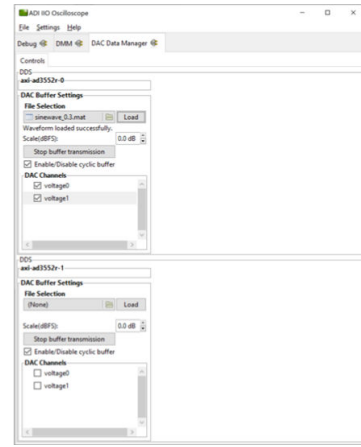
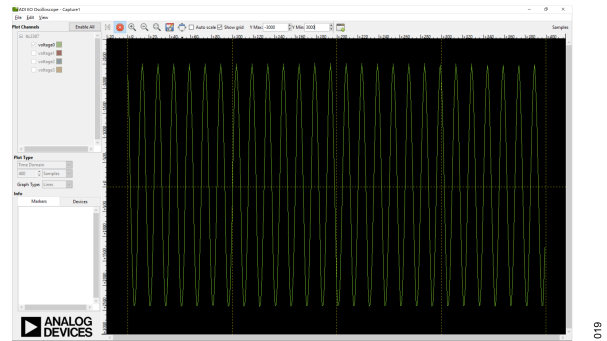

Figure 18. IIO Oscilloscope DAC Output Panel
Figure 19. IIO Oscilloscope Waveform Capture
6. Navigate to the DAC Data Manager and load provided sample waveforms to desired DAC output channels, as shown in Figure 18.
After following the circuit evaluation procedure, the waveforms loaded from the DAC Data Manager tab must appear in the IIO Oscilloscope waveform window, which displays the signals captured at each ADC channel input. Figure 19 shows an example display using the sample waveforms selected, as shown in Figure 18.